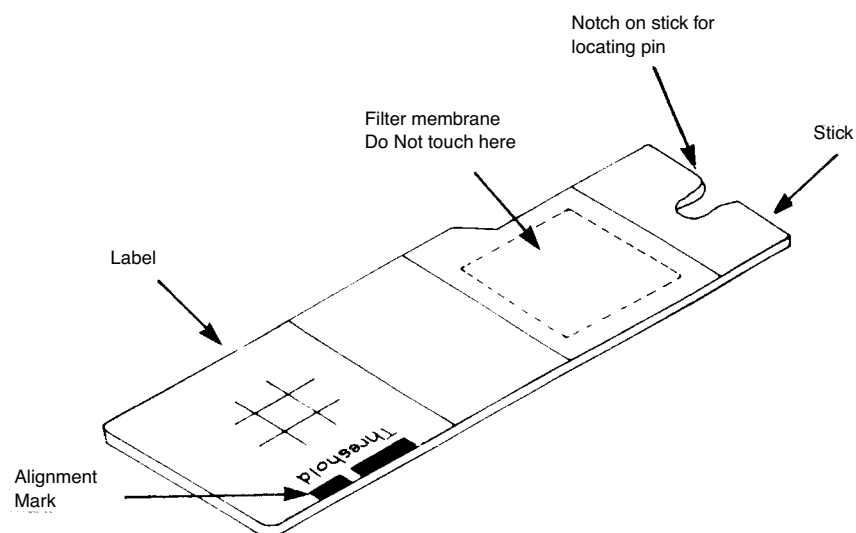

Figure 1-3: Threshold Stick with Biotinylated Nitrocellulose Membrane
- Filtration occurs in an eight-channel filter unit that houses a Threshold stick (Figure 1-3). Eight samples may be collected on different sites of one stick.